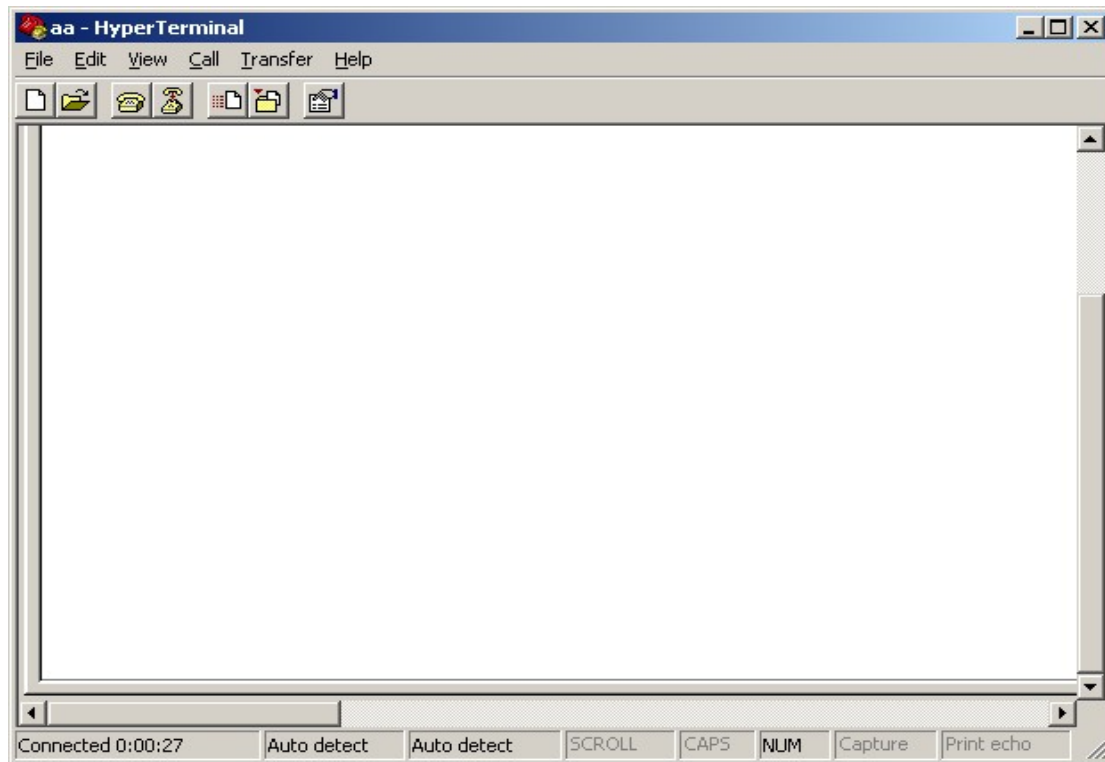

Fig. 3.1.4 Hyper Terminal Interface
Step 4: Serial port parameters setup. Set the serial port parameters as the following setup: Bits per second: 115200, Data bits: 8, Parity: None, Stop bits: 1, Flow control: None. Press “OK” after finish, the Hyper Terminal interface like Fig. 3.1.4 will appear
Step 1: Enter into the Hyper Terminal. Click “Start”→ “Programs”→ “Accessories”→ “Communications”→ “Hyper Terminal”→ “aa.ht”, the Hyper Terminal interface in Fig. 3.1.4 will appear.